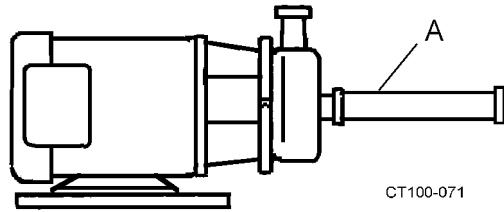

Figure 5 - Straight Pipe Length
- Maintain a straight length of pipe (See Figure 5 item A) at least 8 diameters long at the pump inlet.
- The pump casing may be rotated with the discharge connection pointing in any direction; best pump performance will be with the outlet up, to the left or positions in between; these positions insure a flooded casing and prevent problems due to air in the system. See Figure 5.